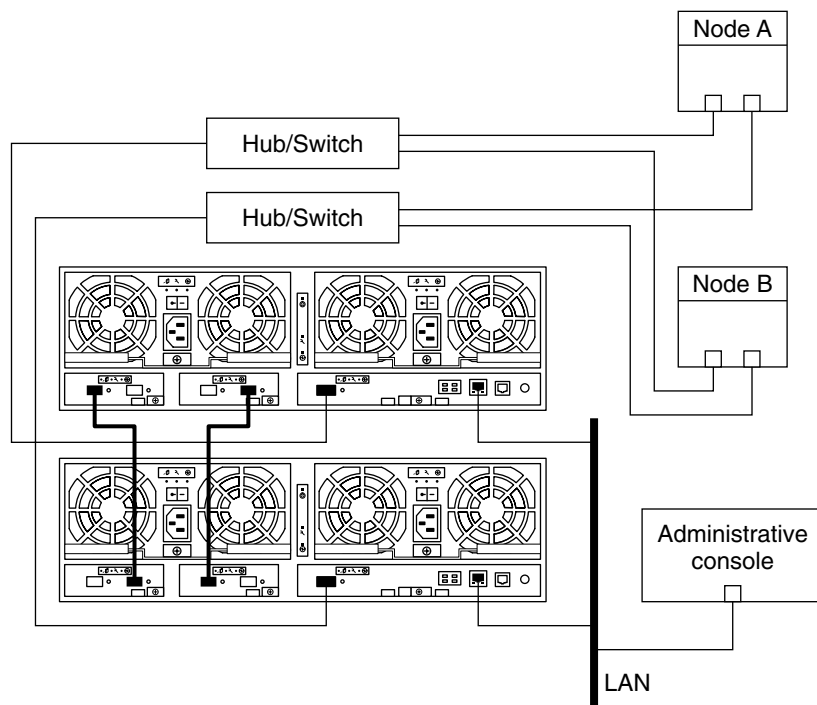

FIGURE 1-8 Adding a Partner-Group Configuration: Part III
39. If necessary, install GBICs or SFPs to the FC switches, as shown in Figure 1-8.
40. Connect fiber-optic cables between the FC switches and Node B, as shown in Figure 1-8.